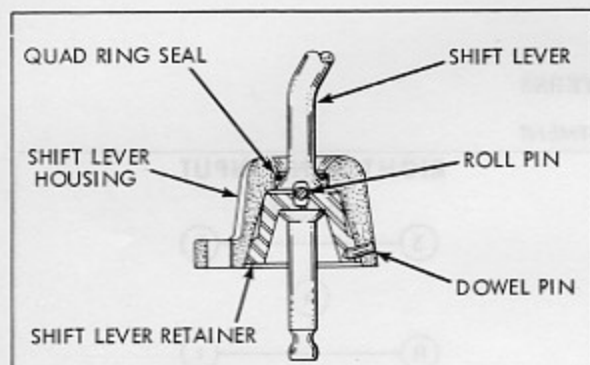

Figure 10-2 Dowel Pin Type Shift Lever
- Dowel Pin Type.** Locate the dowel pin holding the retainer in the housing from the outside (Fig. 10-2). Place a 1/4" flat face punch on the gasket surface directly over the dowel pin. Strike the punch sharply but lightly with a hammer to dislodge the retainer from the shift lever housing. Always use a new dowel pin for reassembly.
- Remove the shift lever from the shift lever housing. Examine the roll pin in the ball of the shift lever, (Fig. 10-2) if bent or worn, replace. When inserting a new roll pin in the ball, position so that equal lengths protrude from both sides of the ball.